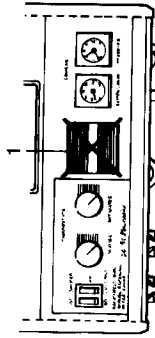

Fig. 1
In this mode the timed/summer/constant switch must be in the closed ie. constant position fig. 1. (19)
**Instructions for (A) Fitting Vokera 24 Hour Time Switch (Part No. 032 GC No. 301 110) and Fitting Vokera Digital 7 Day Time Switch (Part No. 05 G.C. No. 301 109)**
**(B) Wiring to external Time Switches, Room Thermostats and Frost Thermostats**
1. Remove the clock aperture blanking plate (1) (fig 1) by squeezing the two lugs on the rear of the plate together and push the plate out.